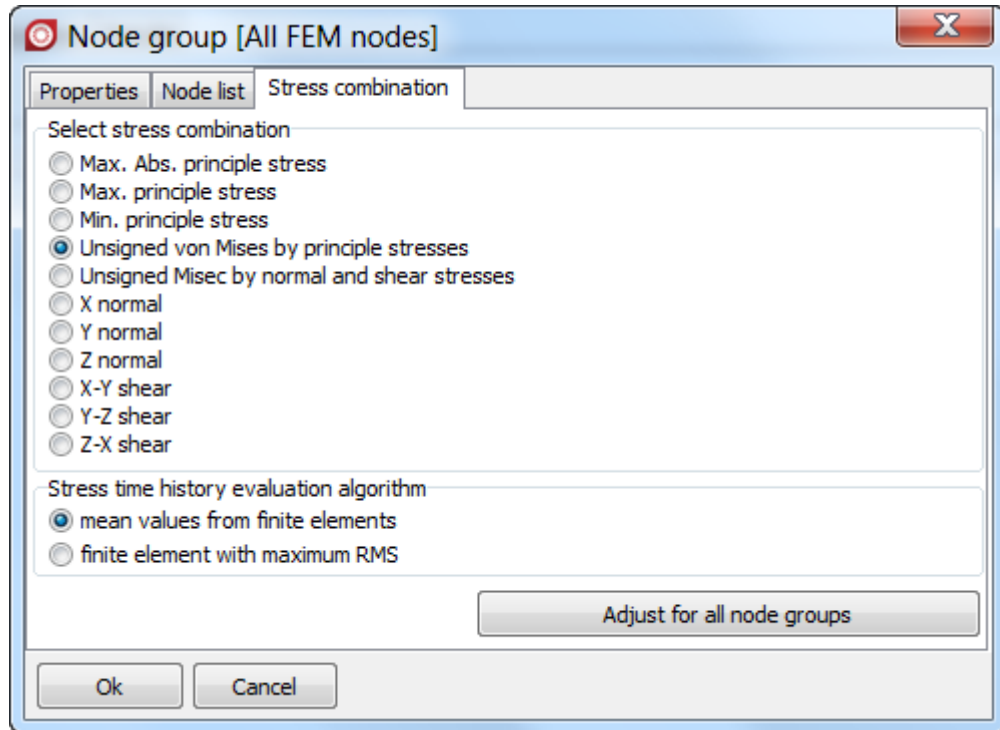

Figure 2.13. Stress combination setting for **All FEM nodes** group of sensors
4. Select the **Stress combination** tab, see Figure 2.13.